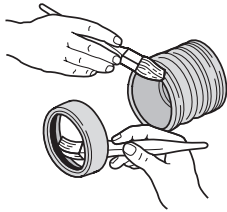

Fig.3c Applying cement
**Step 3** – Carefully apply liquid weld (solvent cement) to mating surfaces (Fig.3c)